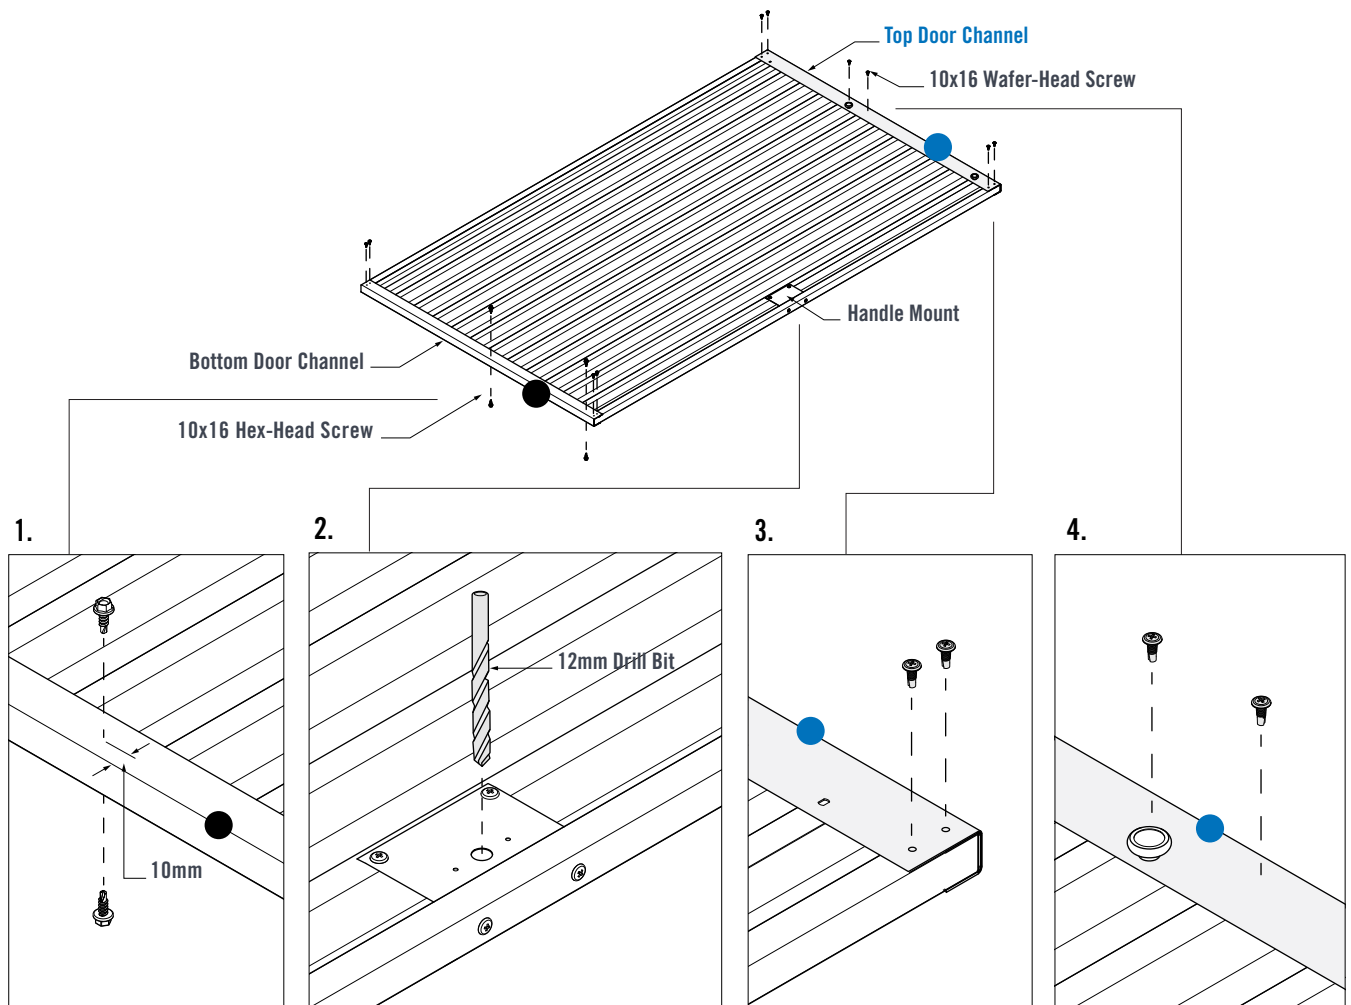

FIGURE 7.6
1. Fasten a 10x16 Hex-Head Screw into the mid-point of the Bottom Door Channel. Ensure the screw is fastened approximately 10mm from the bottom face of the Channel. Fasten a 10x16 Hex-Head Screw near the Handle Mount end of the Bottom Door Channel. Flip over the Door Assembly so that the underside is now facing up. Fasten two more 10x16 Hex-Head Screws in the same manner on the opposite side of the Bottom Door Channel (Figure 7.6).
2. Using the holes in the Handle Mounts as a guide, drill a $\varnothing 3.5$ mm pilot hole, then $\varnothing 12$ mm hole through the Wall Sheet (Figure 7.6).
3. Fasten two 10x16 Wafer-Head Screws through pilot holes in the Top and Bottom Door Channels and into the Vertical Door Channels at all four corners (Figure 7.6).